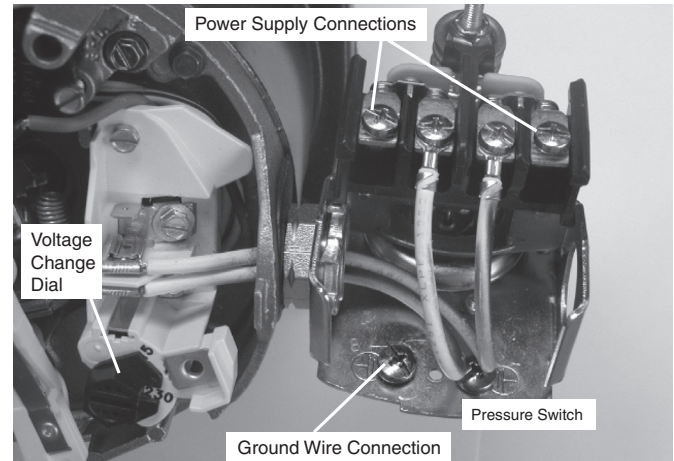

Figure 8 - Voltage set to 230 V, Dial Type
3. Attach the incoming power leads to the two outer screws on the pressure switch as shown in Figure 8.
4. Attach the ground wire to the grounding connections as shown in Figure 8.